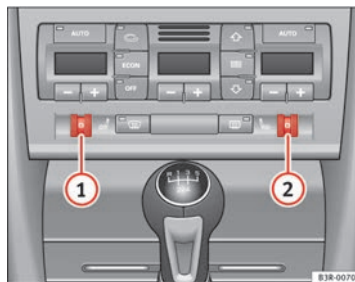

Fig. 133 Detailed view of the dash panel: Thumbwheel controls for seat heating
Turn thumbwheel ① or ② ⇒ fig. 133 to switch on and adjust the heating on the left or right front seats.